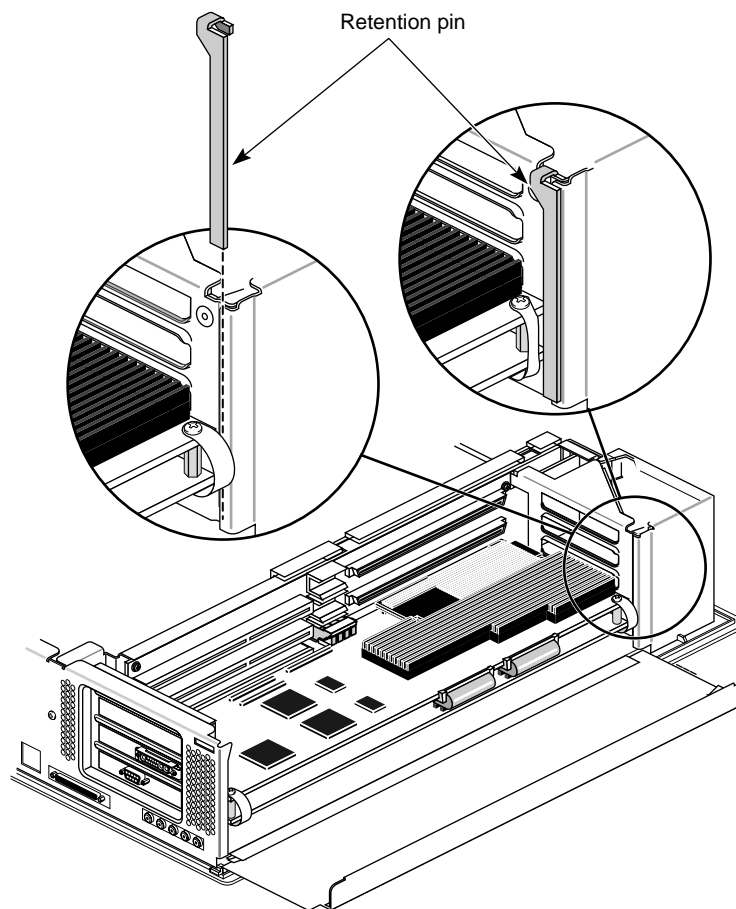

Figure 4-8 Removing the Retention Pin
4. Remove the retention pin on the right side of the boards, as shown in Figure 4-8.